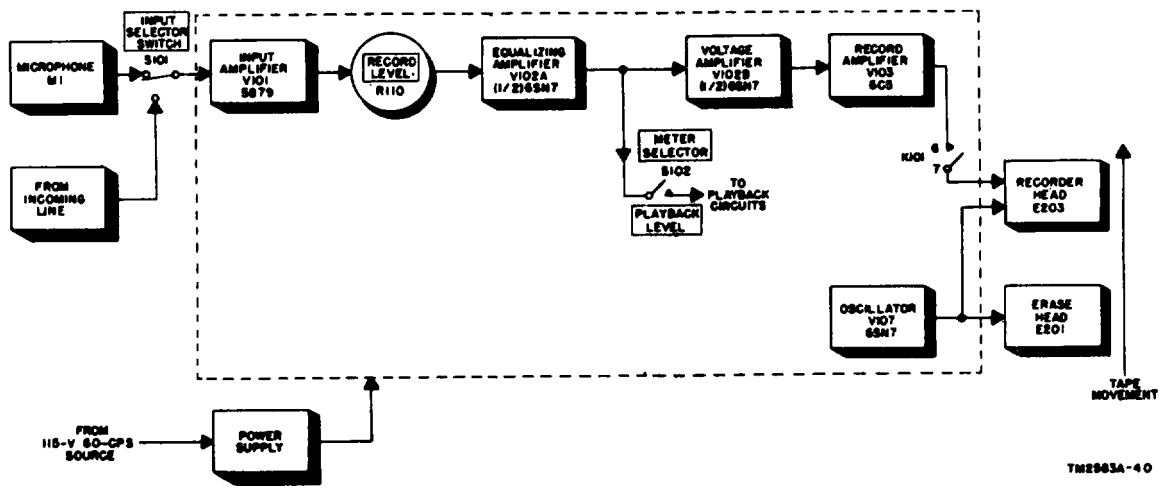

Figure 18. Block diagram of recording circuit.
- (1) *Power supply circuit.* The power supply circuit consists of full-wave rectifier tube V301 (5Y3GT) and a filter circuit. The power supply delivers dc voltages for the B+ and screen circuits and ac voltages for the filaments of the tubes in the audio amplifier.
- (2) *Voltage amplifier-phase inverter circuit.* The voltage amplifier-phase inverter circuit consists of tube V302 (12AX7 dual triode). The tube delivers signal voltage for the push-pull power-amplifier stages.
- (3) *Push-pull power-amplifier circuit.* The power-amplifier circuit consists of tubes V303 and V304 (6V6GT pentode) connected in push-pull. The tubes deliver audio power to the loud-speaker.
45. Recording Block Diagram (fig. 18)